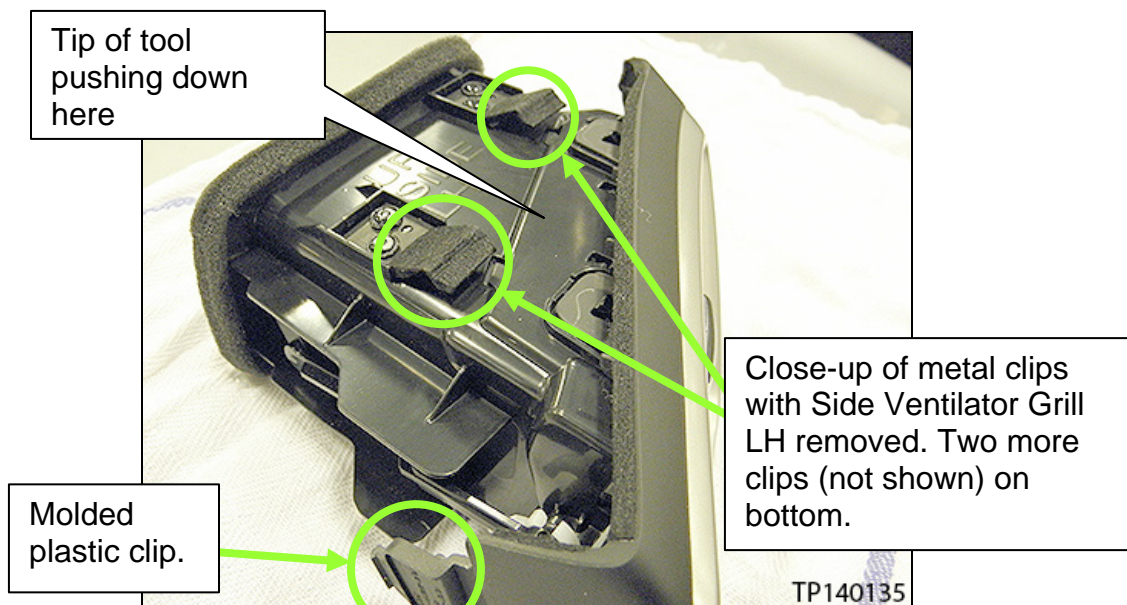

Figure 9
- There is one (1) molded plastic clip on the left side, two (2) felt covered metal clips above and two (2) felt covered metal clips below the vent (Figure 9).